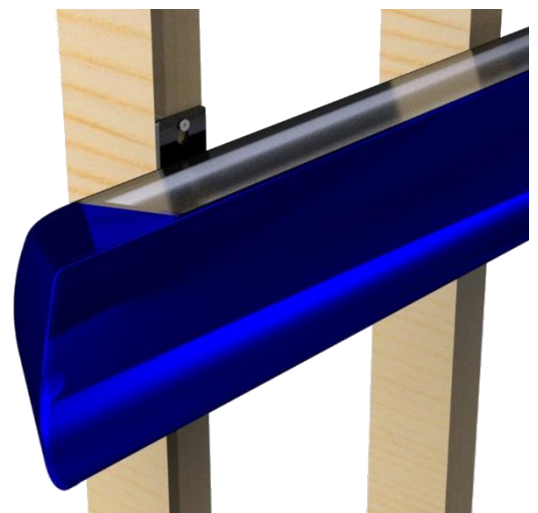

Figure 8: Back part of case hanging off wall mount
5. Carefully lift and hook the channels on the back of the housing onto the wall mounts (see Figure 8).